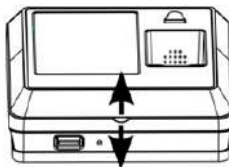
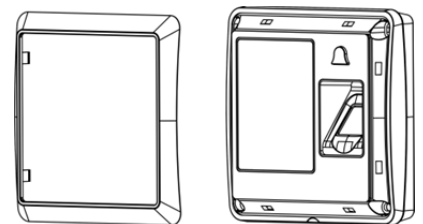

Figure 2
Figure 3
2.1.2 Find the frame groove position (Figure 2), Gently remove the frame use hand (Figure 3);